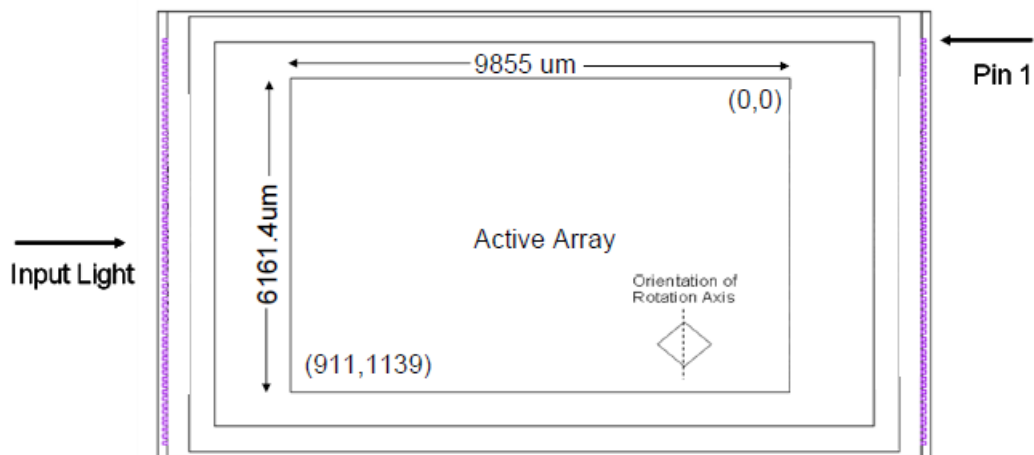

Figure 4. DLP4500NIR Micromirror Active Area
- (1) See Micromirror Array, Pitch, and Hinge-Axis Orientation.
- (2) See Micromirror Active Area in Figure 4.
- (3) The mirrors that form the array border are hard-wired to tilt in the -12° (“Off”) direction once power is applied to the DMD (see Micromirror Array, Pitch, and Hinge-Axis Orientation and Micromirror Landed Positions and Light Paths).